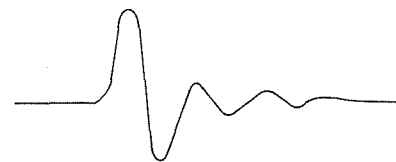

Figure 9. Sin^2 pulse showing distortion caused by high frequency roll off: reduced height, increased width, and decaying ringing.
4. High-frequency roll-off (Figure 9). The most significant change caused by reduced bandwidth is the amplitude of the sin^2 pulse. And with this reduced amplitude, the pulse width increases since the area of the pulse represents a dc component that remains constant. From the appearance of the pulse, you can